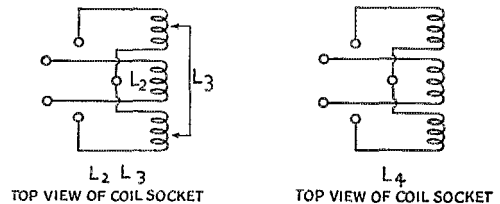

Fig. 2 — Coil connections and data.
- $L_6$  — 18 turns No. 30 d.s.c., close-wound, on same form as  $L_5$ ; see Fig. 2.
Reasonable care in following the diagram should ensure the receiver's working immediately when it is finished. The method of winding coils is indicated in Fig. 2; if the connections to the circuit are made as shown there will be no trouble in obtaining the necessary oscillation. Both coils on each form should be wound in the same direction.
All coils wound on  $1\frac{1}{2}$ -inch diameter forms (Hammarlund SWF-4). Grid windings on coils B-E, inc., spaced to occupy a length of  $1\frac{1}{4}$  inches; grid winding on coil A close-wound. Antenna-tickler coils all close-wound, spaced  $\frac{1}{4}$  inch from bottom of grid winding. See Fig. 2.
Fig. 2 — How the coils for the two-tube super are wound. The bottom end of the i.f. coil in this drawing is the end mounted to the chassis.  $L_5$  and  $L_6$  are wound in the same direction.
L1 — 21 turns No. 24 d.s.c., close-wound,  $\frac{1}{2}$ -inch diam. (See Fig. 2 for specifications of L2 and L3.)